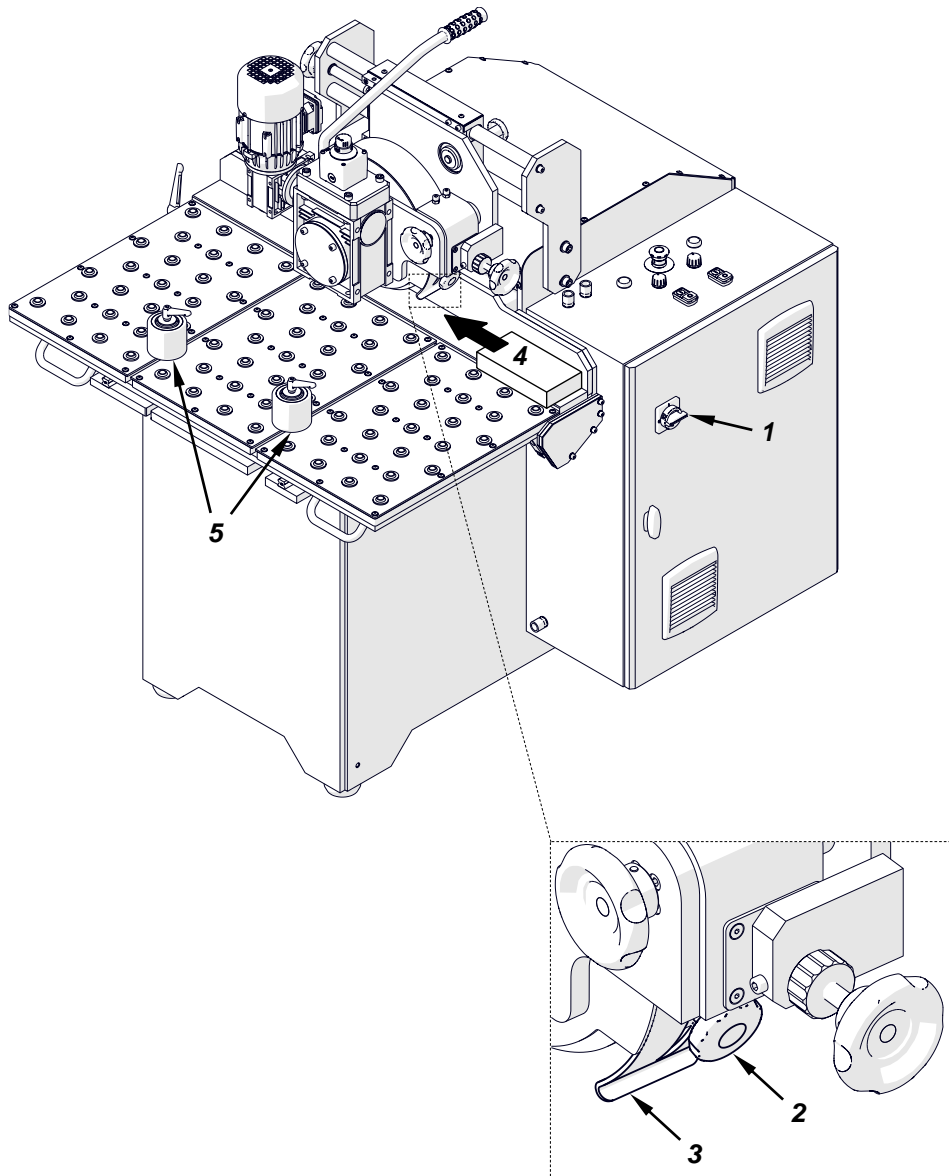

Fig. 12. Starting the work
Connect the machine to the power source and use the switch (1, Fig. 12) to turn on the power. On the control panel, press START, and then start the SPINDLE and FEED. Use knobs to set the required spindle speed and feed speed. Next, loosen the knob (2, Fig. 12), lower the chip guard (3), and then tighten the knob in this position.
Put the workpiece on the right side. Press the workpiece to the vertical and horizontal base and move it to the direction (4, Fig. 12) to put it under the feed wheel. After the first pass, move the vertical base away to get the correct gap for the next pass. Between the vertical base and the horizontal base, put the bevel height gauge related to the angle. On the gauge scale, read the bevel height related to the gap. Make sure that the vertical base is not in contact with the milling head.
To get better contact between the workpiece and the vertical base, use the rollers (5, Fig. 12) to press the workpiece.